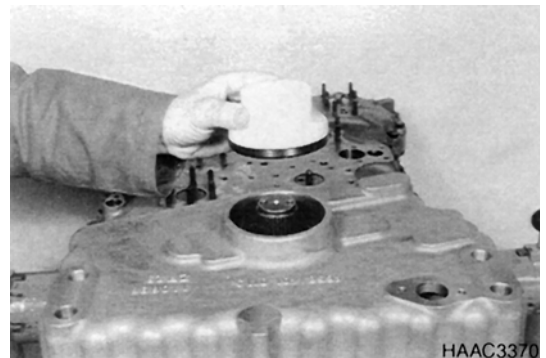
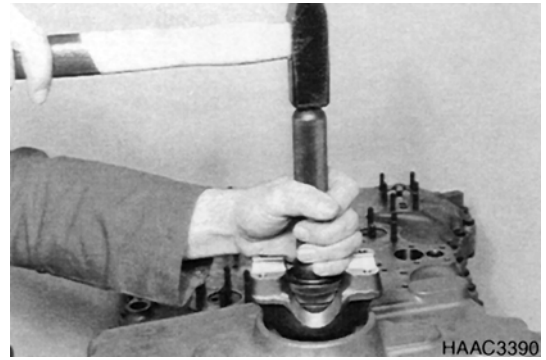

Figure 254
Figure 256
16. Install output flange on the converter side accordingly (Figure 254 thru Figure 256).